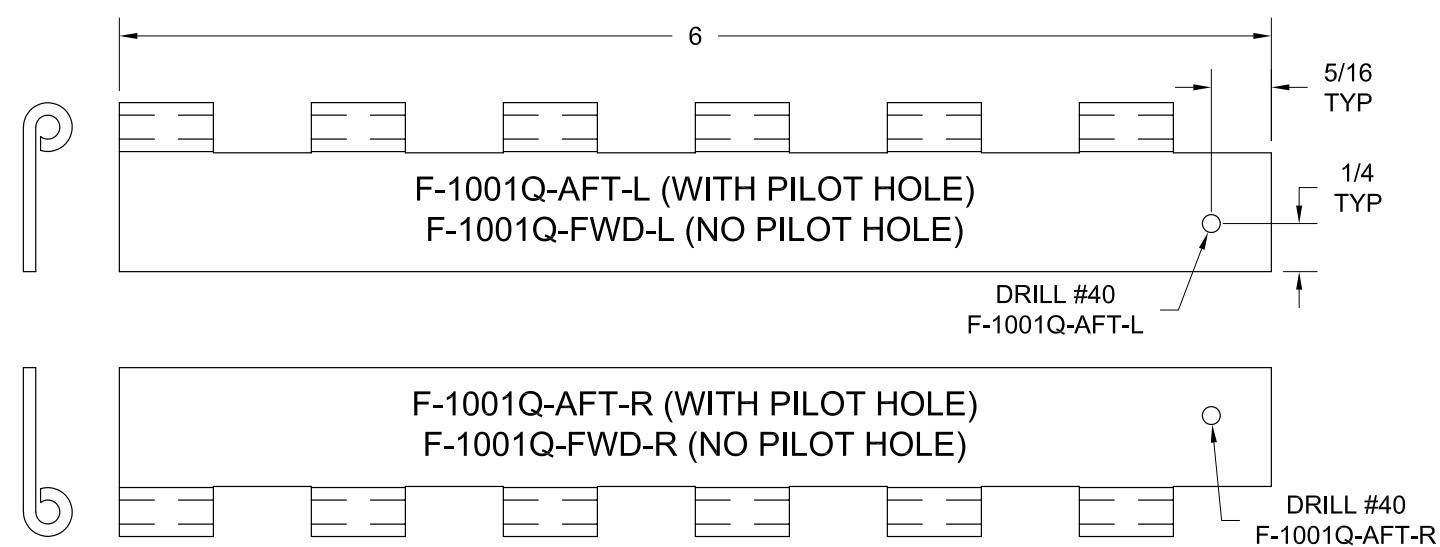

FIGURE 4:
Step 4: Fabricate F-1001Q Cowl Attach Hinges from HINGE PIANO 1/8 as shown in Figure 4.
Drill a #40 hole in the F-1001Q-AFT-L & R Cowl Attach Hinges as shown in Figure 4.